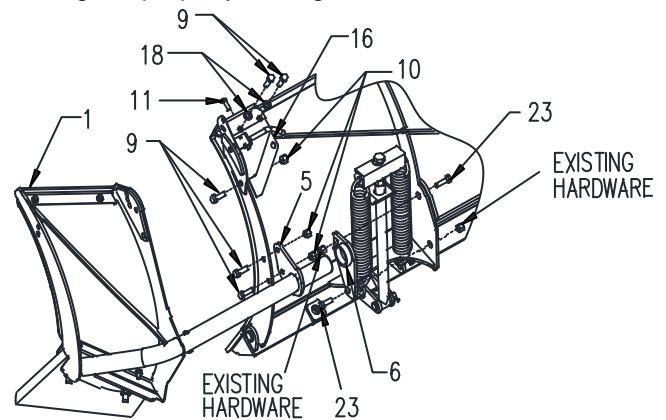
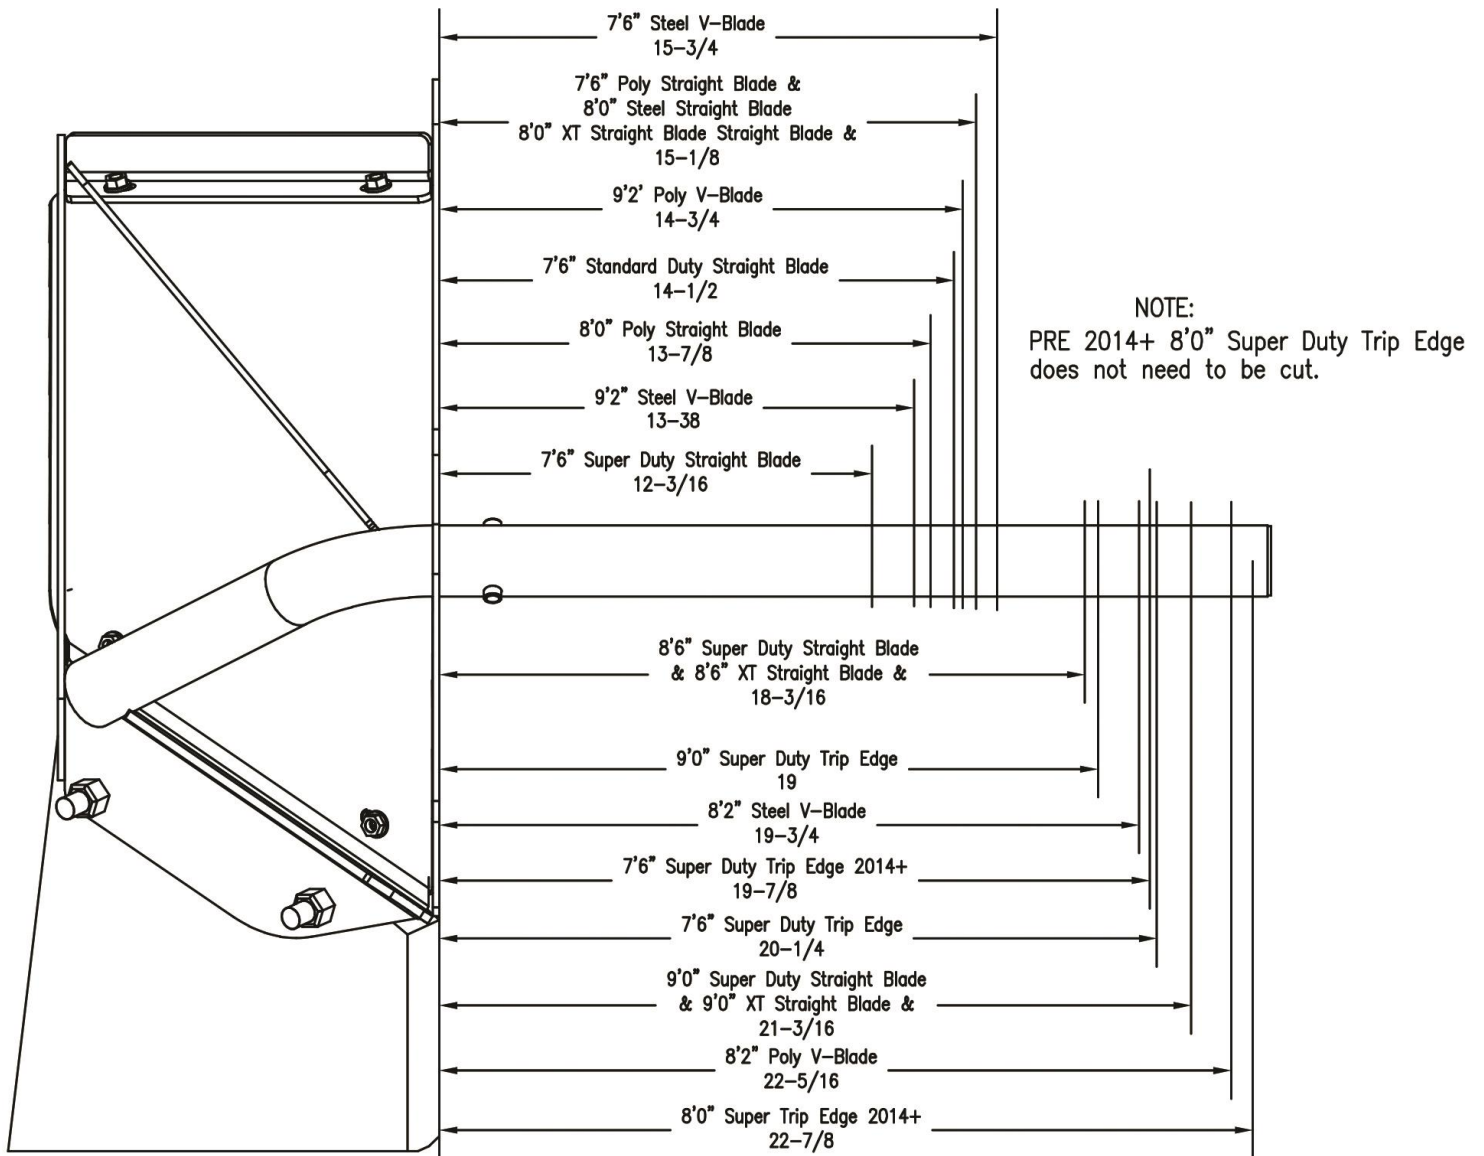

Figure 5. Trip Edge Bracket Installation
Figure 6. Blade Wing Tube cut locations
- 15) If installing on 7'6" or 8'0" Super Duty Trip Edge produced in 2014+ (blades will have a 70 degree attack angle) blade wing tube must be cut. See Figure 6 reference length.
- 16) Insert Driver Side Blade Wing (1) into first Plow Rib Bracket (5).
- 17) Attach Driver Side Trip Edge Bracket (6) using $\frac{3}{4}$ "-10 X 3" Hex Head Bolts (23) and $\frac{3}{4}$ "-10 Nylon Lock Nuts. See Figure 5. On Trip Edge blades produced in 2014+ (70 degree attack angle), place the spacer (22) between Driver Side Trip Edge Bracket (6) and the plow rib. Insert tube from Driver Side Blade Wing (1) into Driver Side Trip Edge Bracket (6). Rotate forward and engage Spring Pin through corresponding hole in Driver Side Blade Wing (1). Make sure Driver Side Blade Wing (1) is aligned properly and tighten fasteners.
21) This step is optional. After installation is complete, Blade Wing Tube can be shortened by marking and cutting end of tube to 1/2" beyond inside of second Plow Rib Bracket (5). See Figure 6 for reference measurements. Tube Plug (8) must be inserted in end of Blade Wing Tube following cut to prevent corrosion.